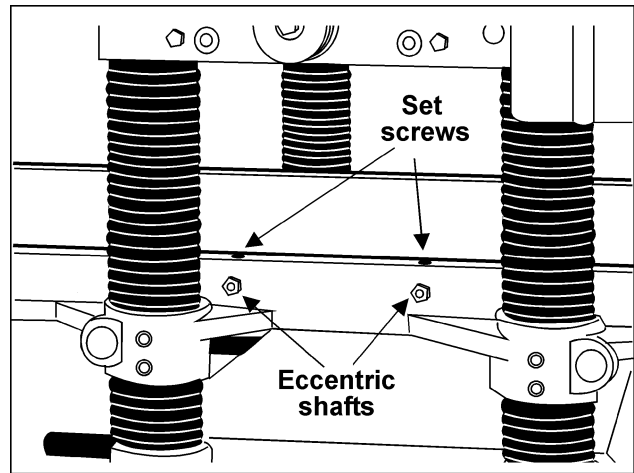

Fig. 15
3. On one side of the table, loosen the set screws (Fig. 15) with a 3mm hex wrench, and turn the eccentric shafts to raise or lower the rollers.